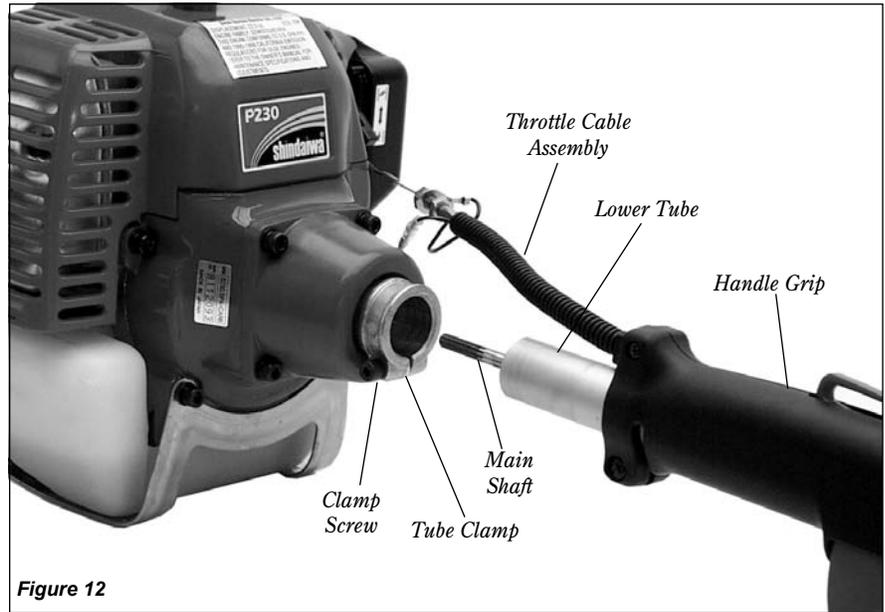

Figure 12
- Position the outer tube so the stop switch is facing up and the throttle cable/wire assembly is on top. See Figure 12.